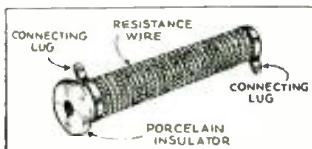

Fig. 3, home made resistors.
3. *Ease of Control.* All operating controls must be well within the reach, if not at the finger tips, of the driver. (To attain this end, all of the vital controls of this P.A. system have been segregated and attached to the steering column of the car well within the reach of the operator. See Fig. 3).